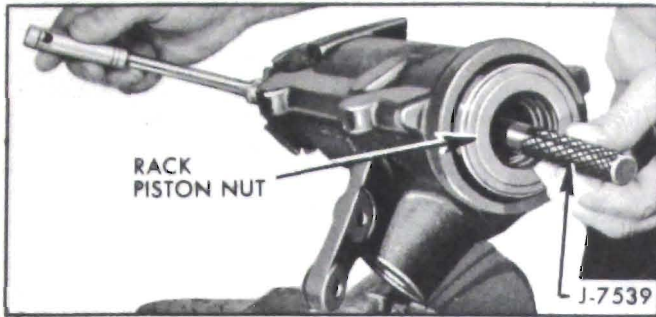

Figure 8-58—Removing Rack-Piston Nut From Housing
8. Insert Ball Retaining Tool J-7539 in end of worm. See Figure 8-58. Turn stub shaft so that rack-piston nut will go onto the tool and remove rack-piston nut from gear housing. Keep